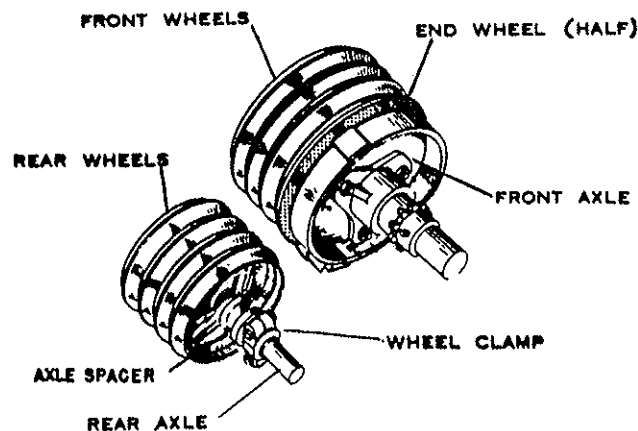
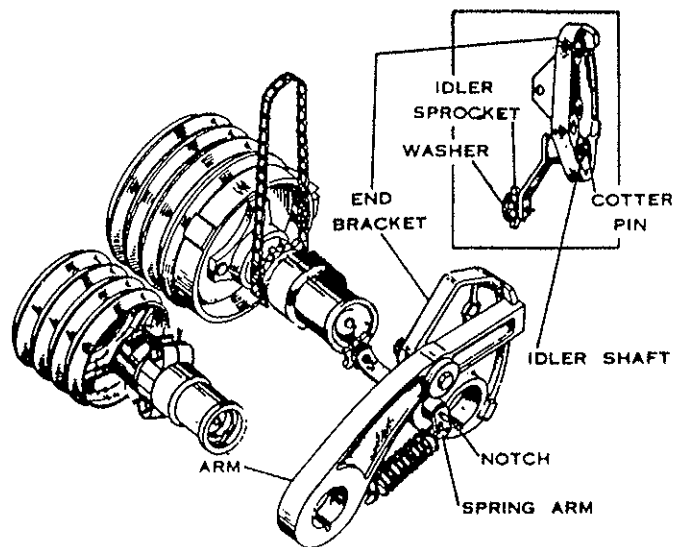

Figure 1. Roller Assemblies
Figure 2. Mounting End Brackets
1. Position the roller assemblies with the smaller diameter rollers behind the larger diameter rollers. The drive sprocket on the front roller assembly must be to the right. See Figure 1. Place the spacer over the left stub shaft of the front roller assembly. Slide the bearings over the shafts on both ends of the two roller assemblies. The raised boss on the bearings must be on the bottom. See Figure 2.
3. Assemble the idler sprocket (Fig. 2), flat washer and cotter key to the idler arm. Detach rear arm spring from the right end bracket.
Insert the idler pivot shaft in the end bracket through the hole provided. With the idler arm turned up attach spring arm with cotter key. (Fig. 2) Attach spring to spring arm and rear arm as shown.
4. The notches in the bearing holes of the end bracket must line up with the raised boss on the bottom of the bearings. Be sure they are properly aligned before sliding the end bracket on. Then slide the end brackets over the axles as shown in Fig. 2. Note that the correct position of the end bracket arm is toward the outside.